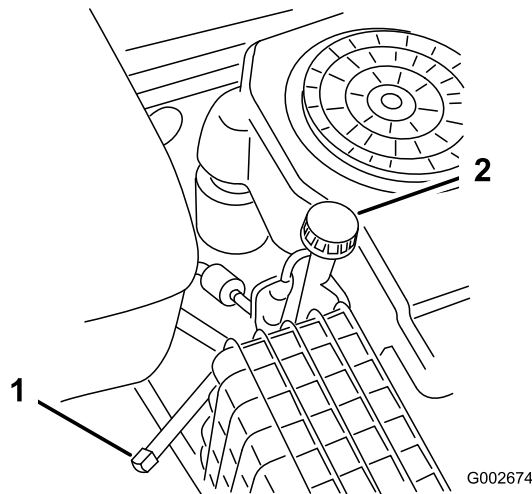

Figure 22
5. Place a pan below the oil drain. Remove the oil drain cap (Figure 22).
6. When the oil has drained completely, install the drain cap. (Figure 22).
7. Clean around the oil dipstick and unscrew the cap (Figure 22).
8. Slowly pour approximately 80% of the specified oil into the filler cap (Figure 22). Refer to Servicing the Engine Oil.